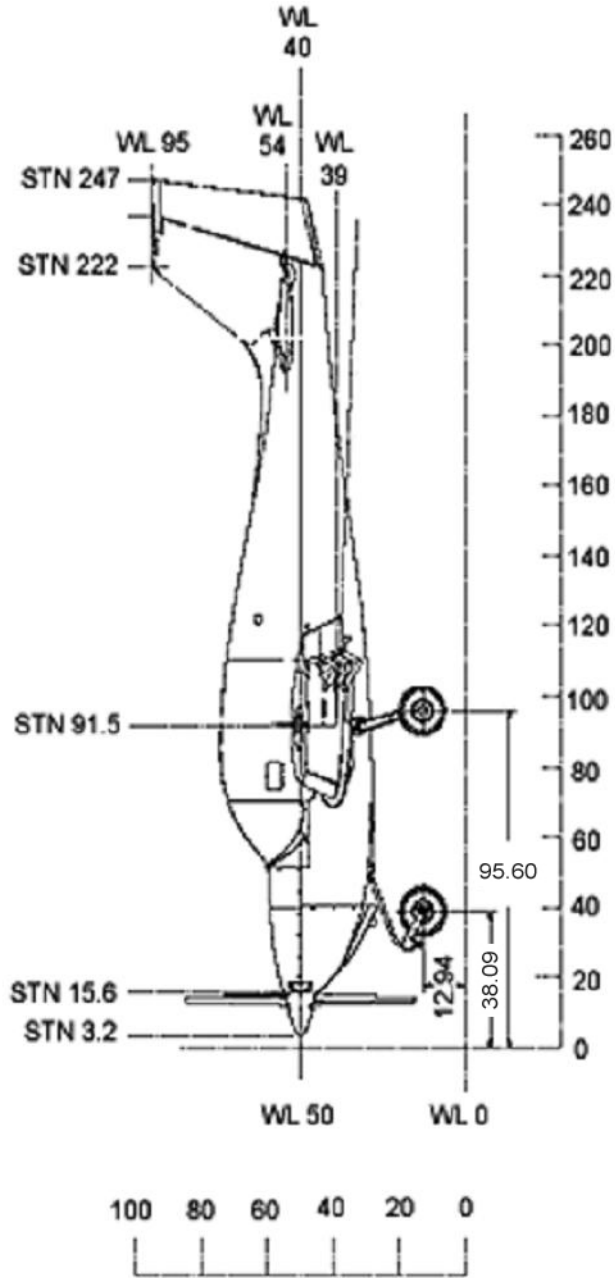

Figure 6-1 Airplane Dimensional Data
For calculating the aircraft weight and center of gravity, the distance between the XL2's nose wheel and main wheels is 57.51 inches (measurement 'y'), with the midpoint being 28.75 inches (Figure 6-1). The distance between the centerline of the two main gears is 70.36 inches, or 35.18 inches from centerline of each main wheel to centerline of airplane (Figure 1-1).
7. Record the new weight and C.G. values on the Weight and Balance Record (Figure 6-1).